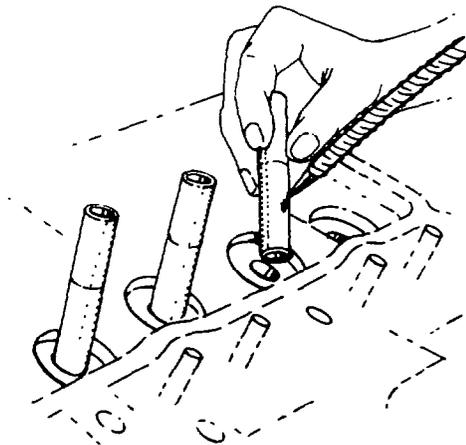

Fig. 19 — Oiling New Valve Guides
a. Apply engine oil to the new valve guides before installing (see fig. 19).